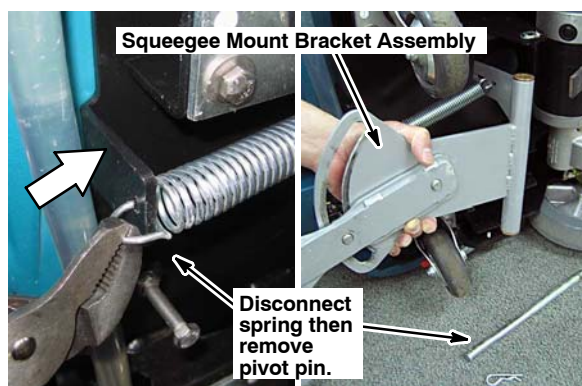

Fig. 1
5. Remove the squeegee mount bracket assembly from the machine (Figure 1).